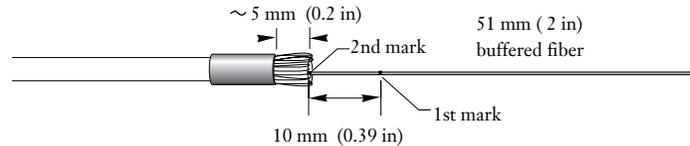

Figure 5-23
- 5.5-8 Measure and mark the 900  $\mu\text{m}$  buffer coating 10 mm (0.39 in) from the end of the cable jacket (Figure 5-23).